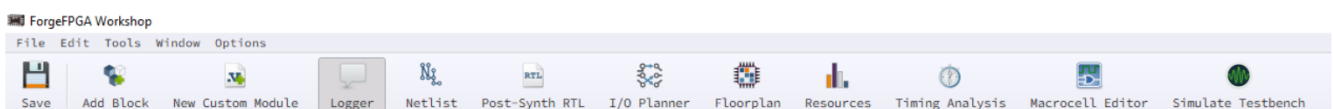

Figure 7: ForgeFPGA Tool Bar
6. Create Test Bench module and define the different inputs you want to run the code through to verify functionality at different time intervals. Simulate the testbench through the Simulate TestBench button on the toolbar (see Figure 7).